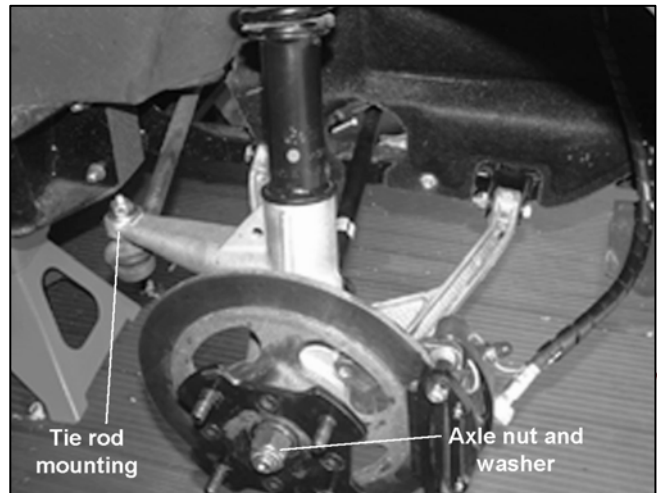

Figure 6-11
3. Remove axle nut and washer (Figure 6-11).
5. Disconnect tie rod end from a-arm (Figure 6-11).
3. Connect tie rod to hub assembly (Figure 6-11).
2. Disconnect tie rod end from a-arm (Figure 6-11).
4. Reconnect tie rod end to a-arm (Figure 6-11).
4. Disconnect tie rod ends from a-arm (Figure 6-11).
8. Connect tie rod ends to a-arm (Figure 6-11).